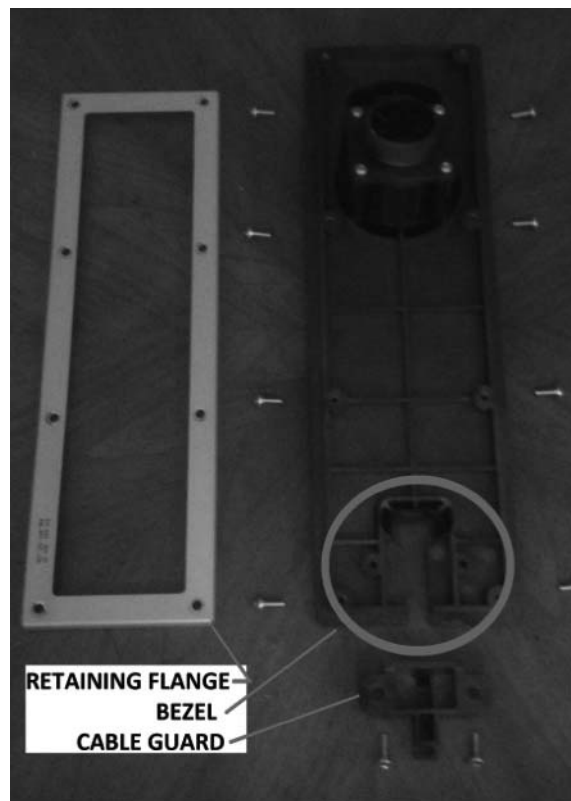

Figure 17 – Front Bezel Disassembled
4. Remove the 2 Phillips-head screws attaching the lower cable guard to the bezel. Retain the screws for later re-installation. Remove the cable guard from the bezel (see Figure 17).
11. Reinstall the lower cable guard into the bezel. Reinstall the 2 Phillips-head screws attaching the lower cable guard to the bezel. Torque screws to 10 in-lbs. Do not over-tighten screws or you may damage the plastic! (See Figure 17, page 17)